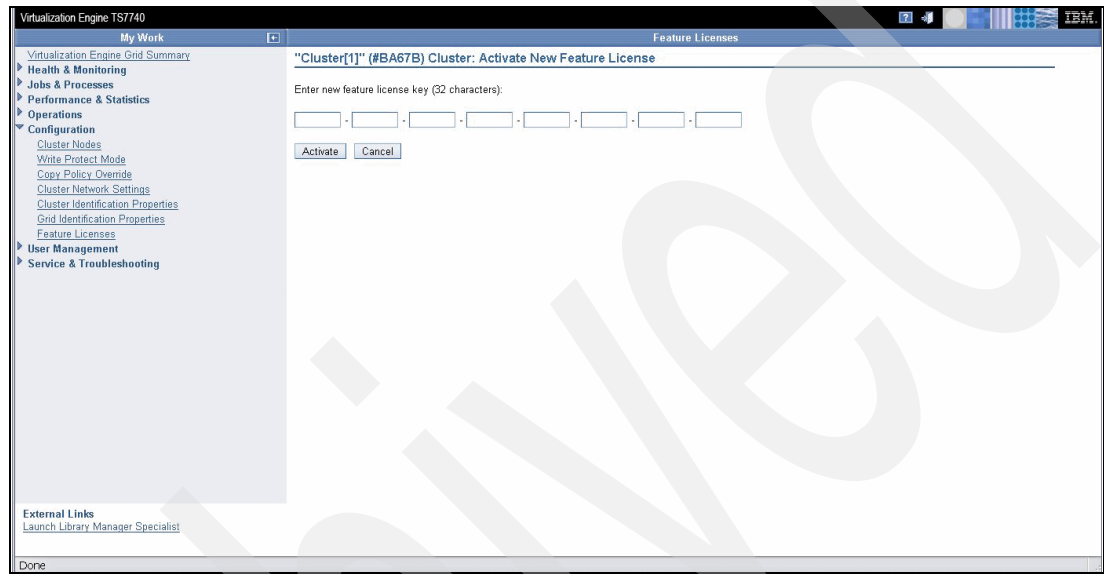

Figure 7-46 TS7700 MI 32 character feature license
2. The Activate New Feature License page will be displayed; see Figure 7-46 on page 357. Enter the 32 character feature license in the available text field and click **Activate** to continue or **Cancel** to cancel the activation.